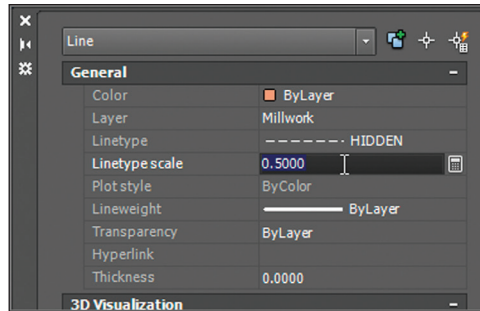

FIGURE 6.22 Adjusting the Linetype Scale property
8. Change Linetype Scale to `0.5` in the General section of the Properties panel (see Figure 6.22).